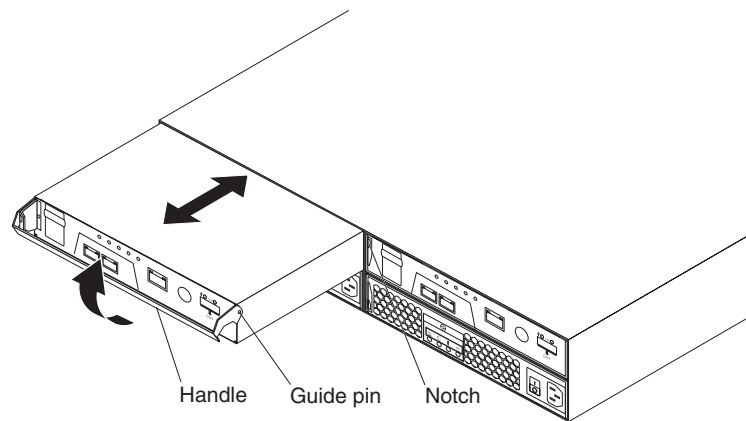

Figure 37. Removing and replacing a controller
- b. Slowly pull the handle away from the chassis to remove the controller from the bay, as shown in Figure 37.
- b. Make sure that the guide pins on the side of the controller fit into the notches on the DS3300 chassis. See Figure 37 on page 67.